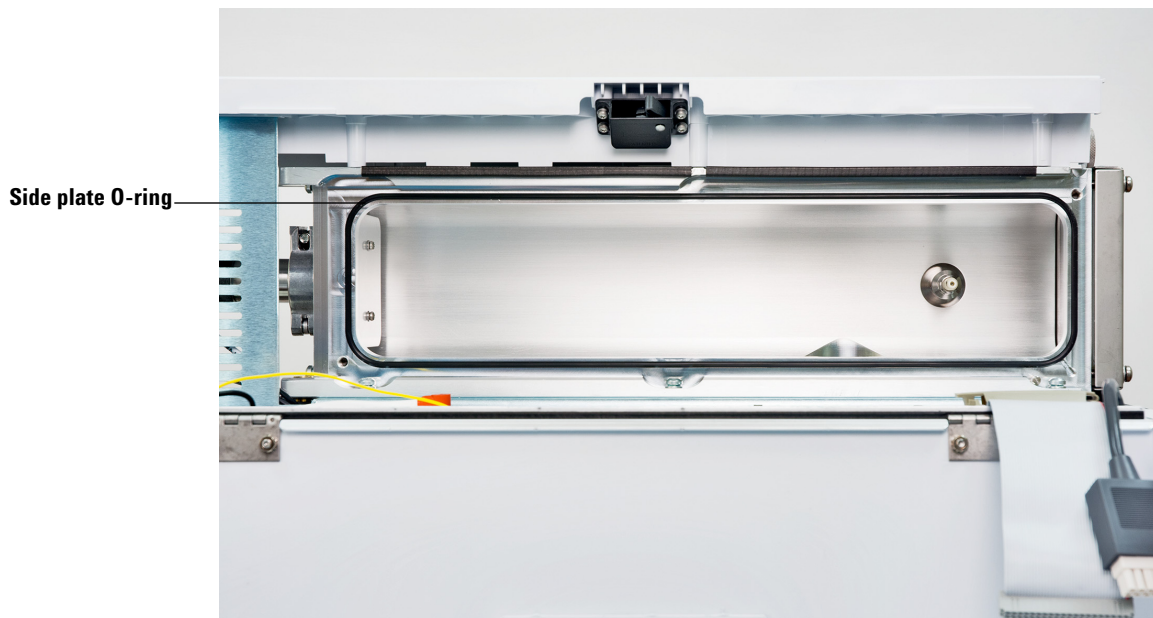

Figure 18 Side plate O-ring
- 3 Use a clean, lint-free cloth or glove to spread a **thin** coat of high vacuum grease only on the exposed surface of the O-ring (See Figure 18 on page 129).